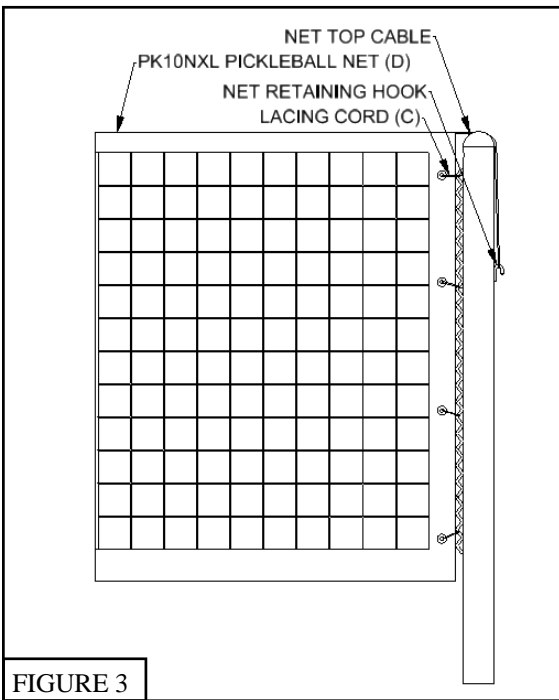

FIGURE 3
6. Hook the loop on the *PK10NXL Pickleball Net* (D) top cable on the net retaining hook on *Non-Winch Post* (B) and over the top cable guide. See Figure 3.
8. Insert dowels through the end side tapes of *PK10NXL Pickleball Net (D)*.
9. Square up *PK10NXL Pickleball Net (D)* to each post, use *Lacing Cord (C)* to secure *PK10NXL Pickleball Net (D)* to each post. See Figure 3.